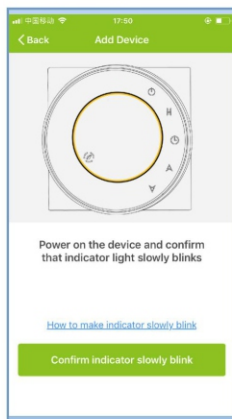
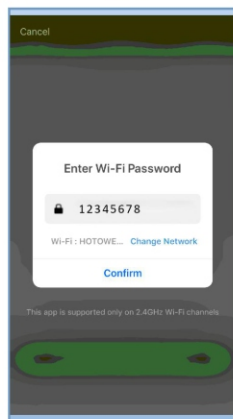
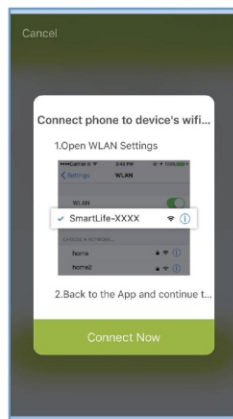

fig 4.1
fig 4.2
fig 4.3
- press and hold the arrow icon ▼ for 8 sec again, the icon will flash once per 3 sec.(fig 4.1)
- Click “Confirm indicator slowly blink” (fig 4.1) then select your network and back to your app to enter the password of your wireless router (fig 4.2) and confirm. The app will go into the page(fig 4.3)
- Press “Connect now” to select the wifi signal Smart life-XXXX from the thermostat(fig 4.3).